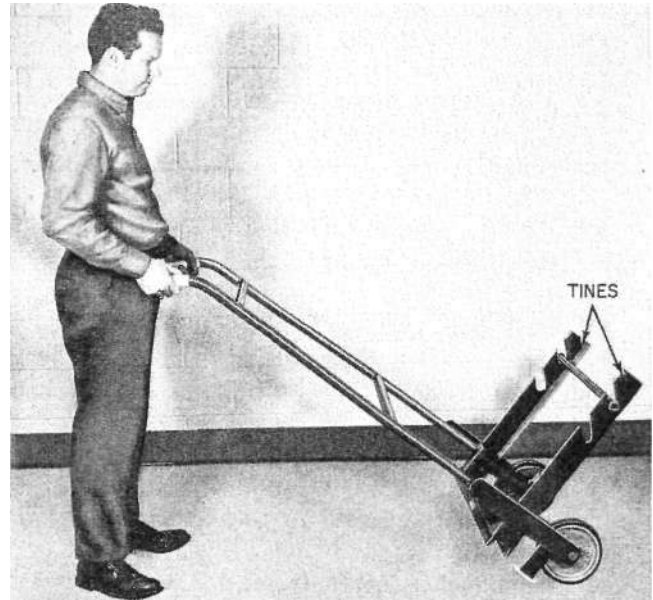

Fig. 1—R-3953 Cable Reel Carrier
**2.01** The R-3953 Cable Reel Carrier is a hand truck which holds and transports the cable reel on a pipe mandrel (Fig. 1). It is designed to be used in customers' buildings to prevent damage to flooring and to make handling of cable reels easier.